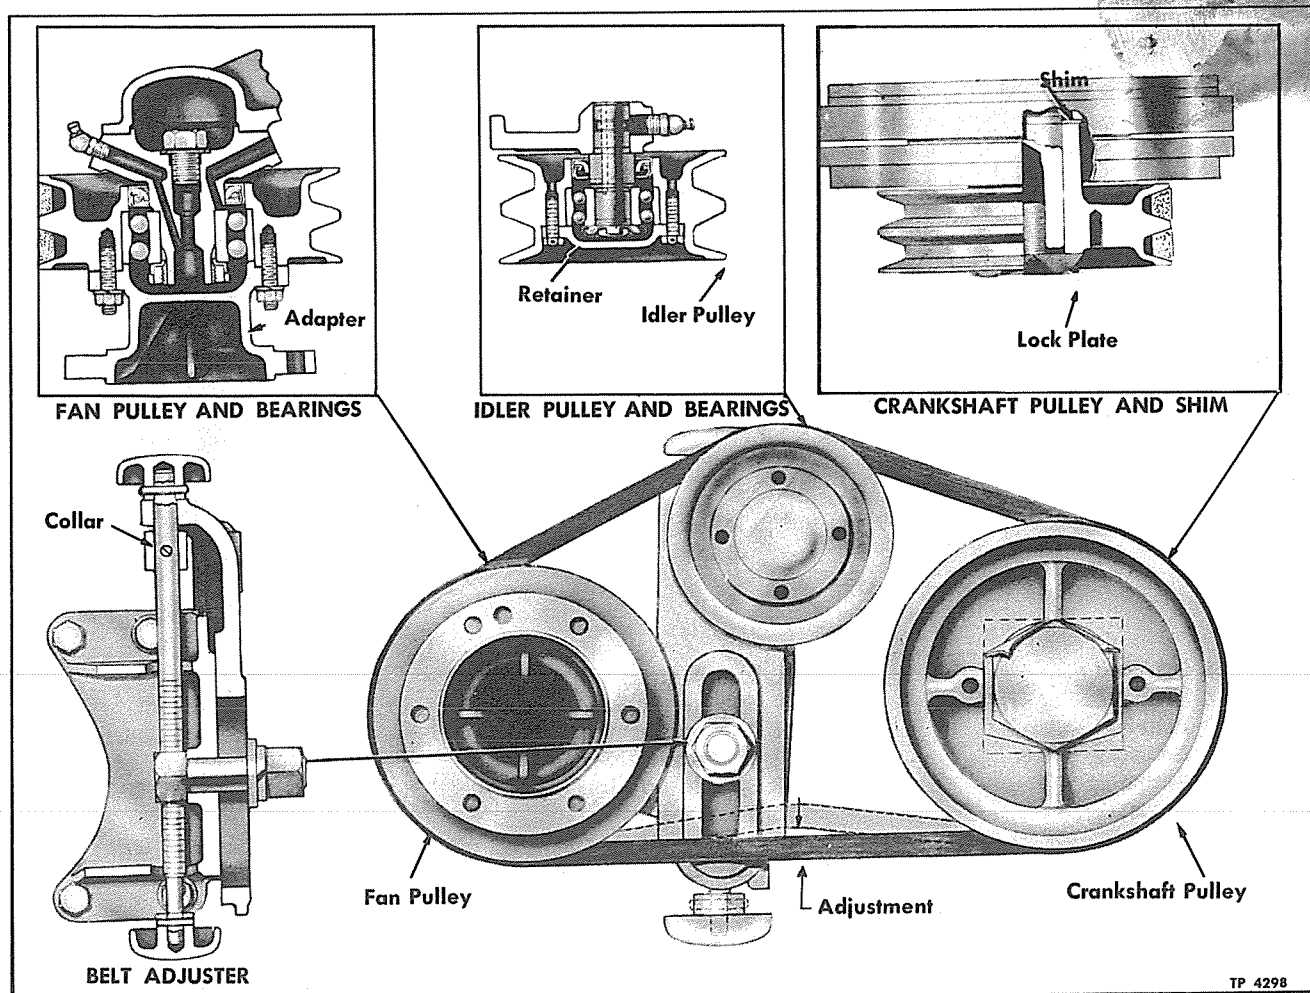

Figure 7—Fan Drive Showing Belt Adjustment
Pages 139 - 140: Current Maintenance Manual (Form X-4711) contains service information applicable to early PD-3751 vehicles only. Information in following pages applies to all PD-4151, and PD-3751 vehicles equipped with variable pitch fan and vehicles with conventional type fan built with modified fan drive illustrated in figure 7.
Radiator cooling fan is supported at front end of engine by bracket bolted to crankshaft cover (fig. 7). Fan blade assembly is bolted to adapter which is held to pulley by studs and nuts.
Fan pulley is mounted on a double row ball bearing assembly supported on spindle. Bearing is retained on spindle by nut which is tightened against inner race. Adapter (fig. 7), which is bolted to fan pulley, contacts bearing outer race to prevent endwise movement of bearing.
IDLER PULLEY (Fig. 7)
Fan idler pulley, mounted as shown in figure 7, revolves on double row ball bearing assembly,
Fan drive pulley is installed on engine crankshaft ahead of vibration damper (fig. 7). Pulley is retained by bolt which is secured by lock.
whether or not pulley spacer is required. With damper and pulley in place on crankshaft and pulley retaining bolt tightened to specified torque reading (180-200 ft. lbs.); measure distance from engine front end plate to forward side of damper. If this dimension measures 4.361 inches or less, remove pulley and install shim (fig. 7) or shims as required, to align drive pulley with idler pulley. When above distance measures more than the 4.361 inches, no shim is required.
1. Remove bolts which attach fan blade assembly to adapter (fig. 7); then remove assembly.